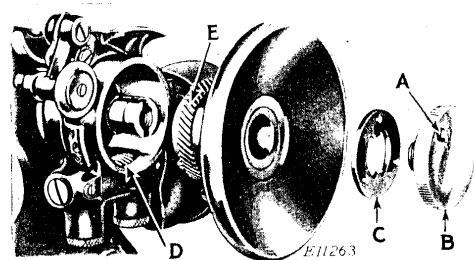

FIG. 16. BALANCE WHEEL REMOVED
Loosen stop screw (A, Fig. 16) and remove clamp screw (B, Fig. 16) by unscrewing it. Remove balance wheel together with stop motion clamp washer (C, Fig. 16).
When replacing the balance wheel, be careful not to injure the textolite gear (E, Figs. 16 and 17) when placing it in mesh with the spiral gear (D, Fig. 16) on the armature shaft. Replace stop motion clamp washer (C) so that when the stop screw (A) is tightened, it is a sufficient distance to the right of one of the three studs on the washer (C) to permit enough counter-clockwise rotation of the clamp screw (B) to stop sewing action of the machine during the winding of the bobbins.